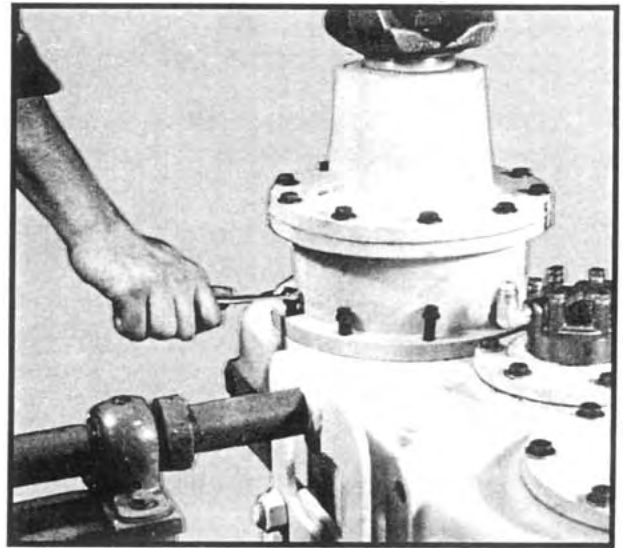

Fig 10
4. Remove the (8) cap screws and washers that secure the bearing carrier to the differential lockout housing. Lift off the bearing carrier (including the ball bearing assembly). Discard the gasket.
6. Remove the (4) cap screws securing the air shift cylinder cap. Lift off the cylinder and cap.
7. Remove the (4) cap screws securing the lockout housing cover plate. Remove the cover plate and discard the gasket.
12. Remove the (10) 12-point cap screws securing the outer differential housing to the transfer case housing. See Figure 10. Lift off the rear output carrier and shaft assembly and set aside. Discard the gasket.